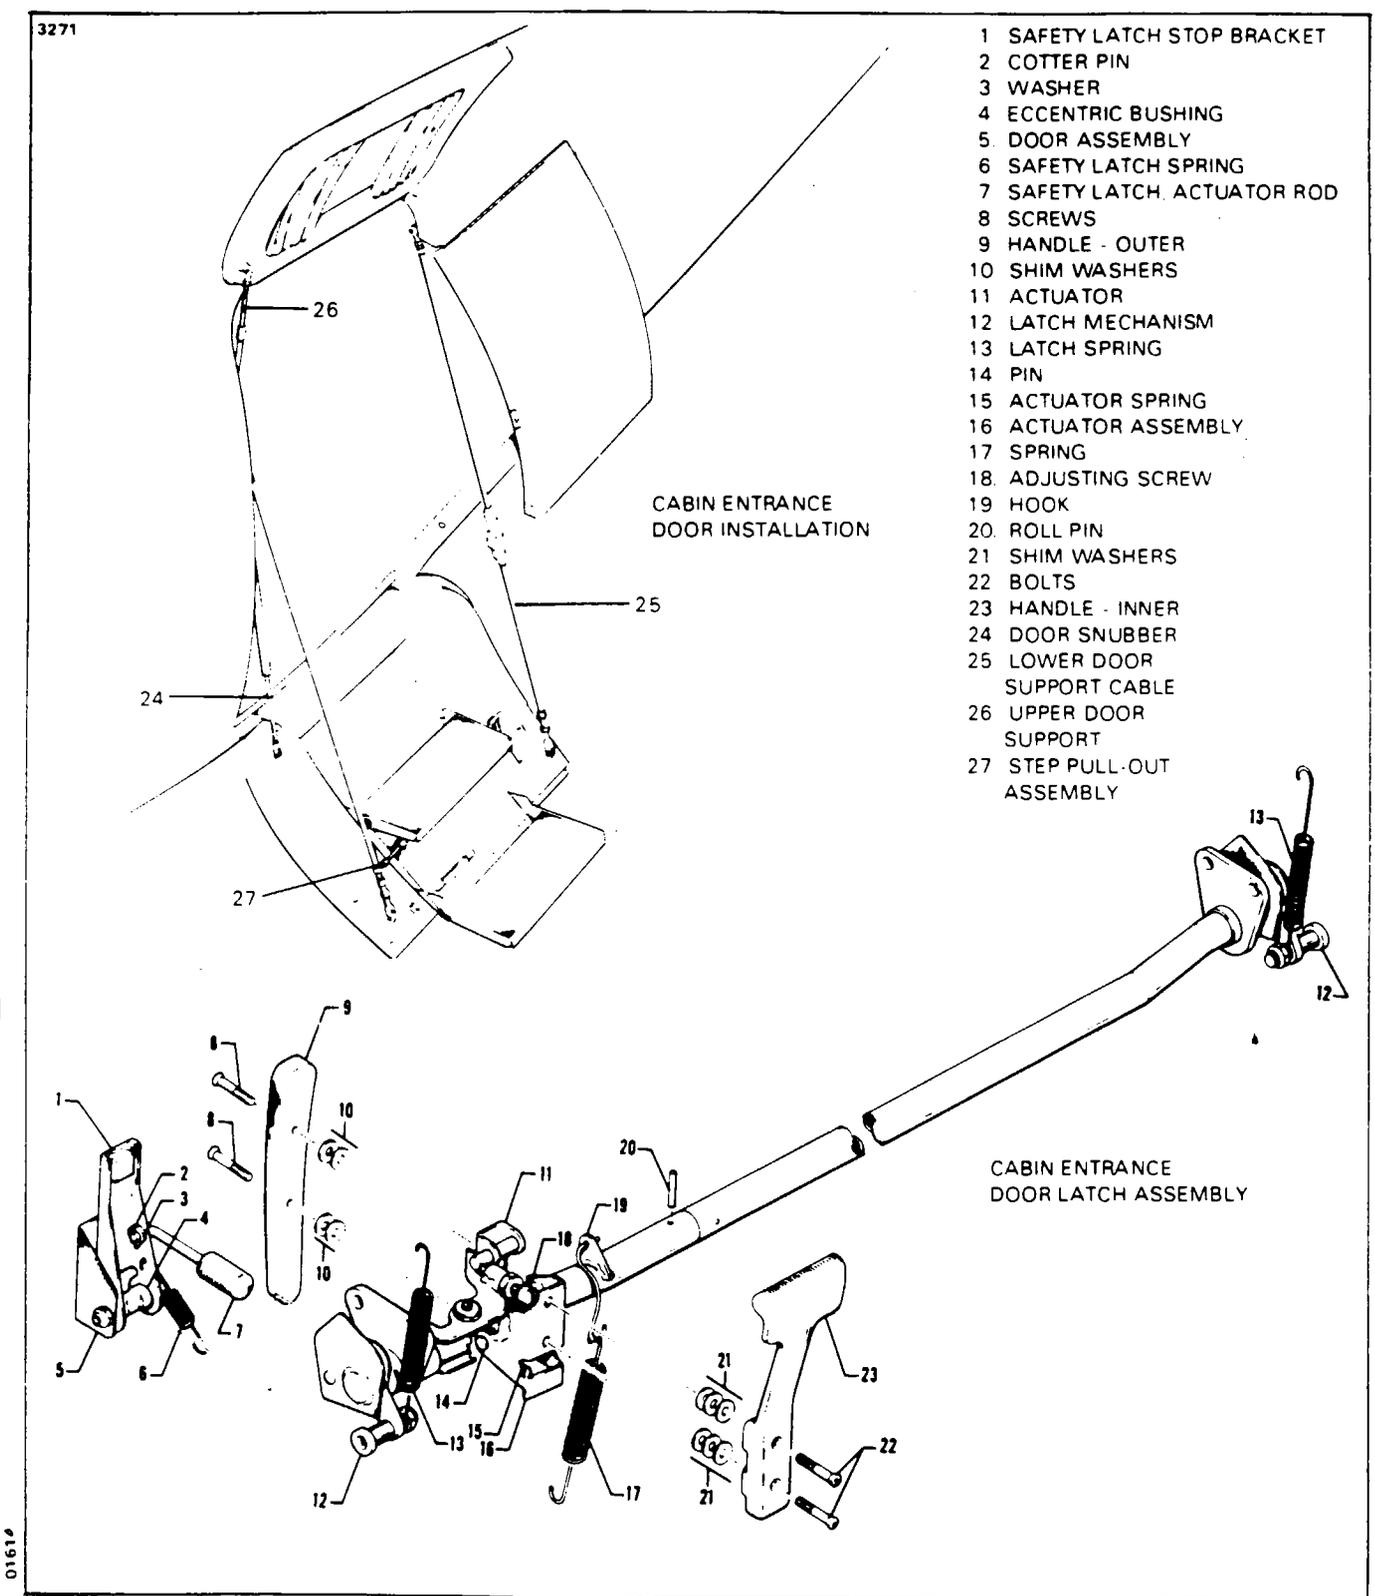

Figure 52-1. Cabin Entrance Door Installation
**REMOVAL OF DOOR LATCH ASSEMBLY. (Refer to Figure 52-1.)**
**INSTALLATION OF DOOR LATCH ASSEMBLY. (Refer to Figure 52-1.)**
**ADJUSTMENT OF DOOR LATCH ASSEMBLY.** (Refer to Figure 52-1.)